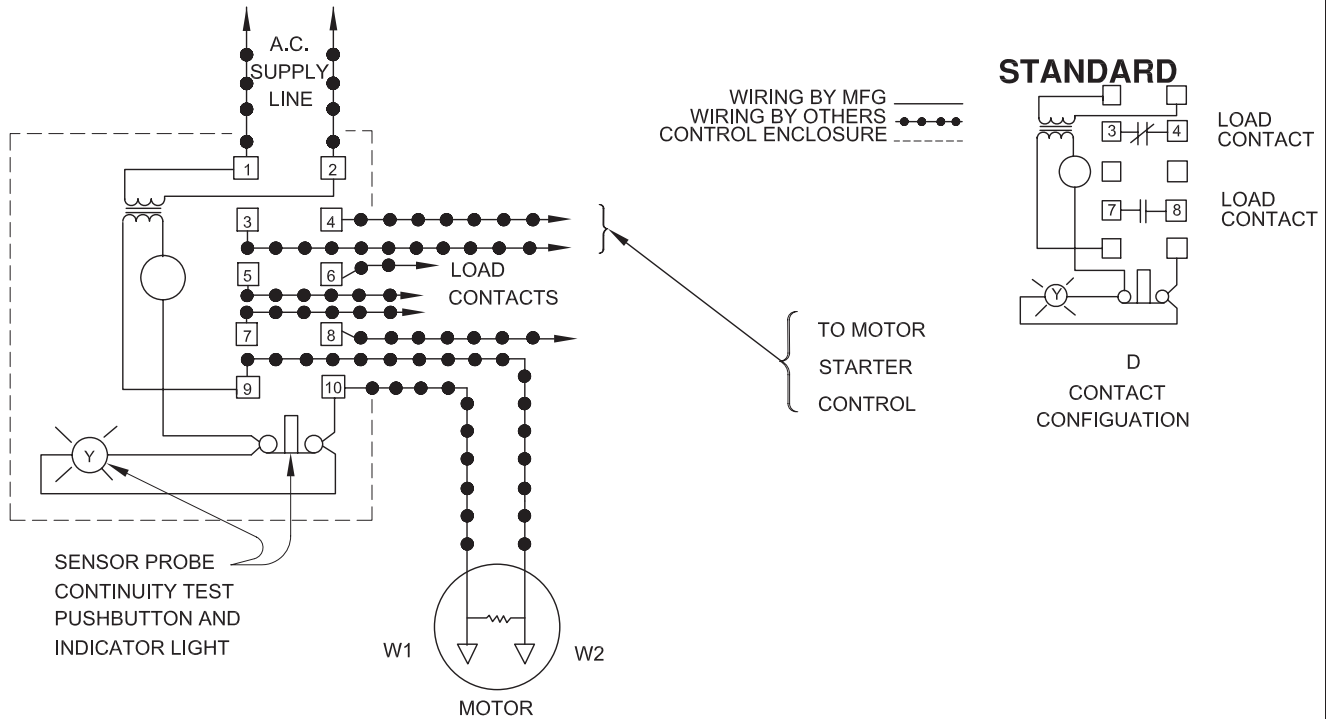

FIGURE 5
- c. A moisture detection circuit with continuity test circuit (See Fig. 5)